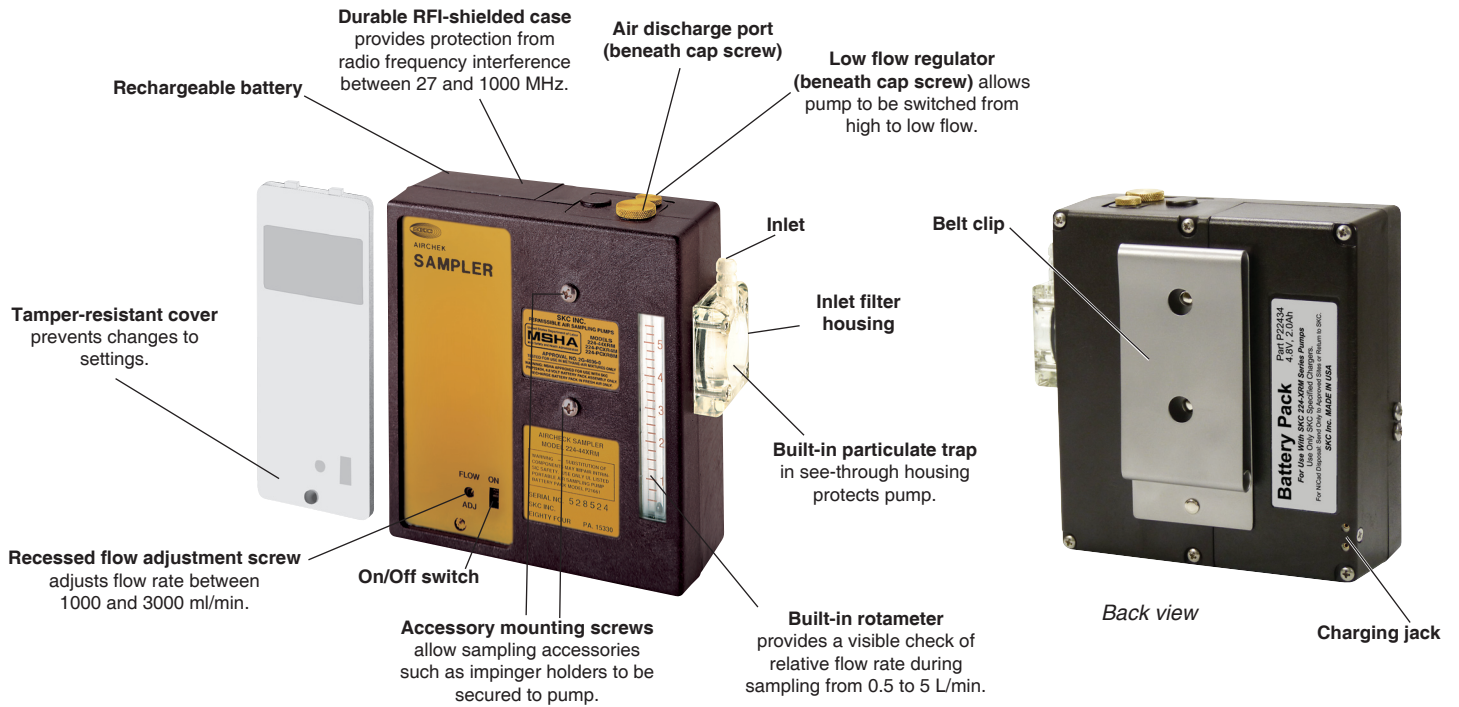

Figure 1. Front and back views of 44XRM Universal Sample Pump
The 44XRM Universal Sample Pump (Figure 1) is a constant flow (from 5 to 3000 ml/min) air sampler suitable for a broad range of applications. It is ideal for industrial hygiene studies as well as environmental testing.
3. Insert the charging plug end of the cable into the jack on the back of the pump's battery pack (*Figure 1*).
Turn Pump Power On/Off (*Figure 1*)
1. To ensure the pump is set for high flow, remove the cap screw (*Figure 1*) covering the regulator valve and turn the exposed screw **clockwise** until it stops. Do not overtighten. *See right.*
4. Set the flow rate using the flow adjustment screw (*Figure 1*) until the calibrator indicates the method-specified flow rate. Take a minimum of three readings and record the average flow rate, as per OSHA/NIOSH instructions.
- b. When using impingers, an in-line trap (SKC Cat. No. 225-22 or 225-22-01) is required to prevent fumes from accidentally being drawn into the sampler. Place the in-line trap between the pump and the impinger. Mount the impinger and trap to the face of the sampler using the accessory mounting screws (Figure 1) or place them in a holster at the worker's waist.
3. Start sampling by turning on the pump using the on/off switch (Figure 1). Record the start time.